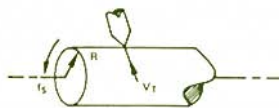

Figure 1. Relationship between cutting speed (V_T), radius (R), and spindle speed (f_S).
In lathe operations, the optimum speed of the work past the tool depends on the material and the required depth of cut per pass. If the spindle to which the work is attached rotates at constant angular speed, f_S (Figure 1), the speed of the work past the tool (cutting speed - V_T) will decrease as the tool moves inward. For a substantial range of radii (R), a chosen optimum speed of cut cannot be maintained.